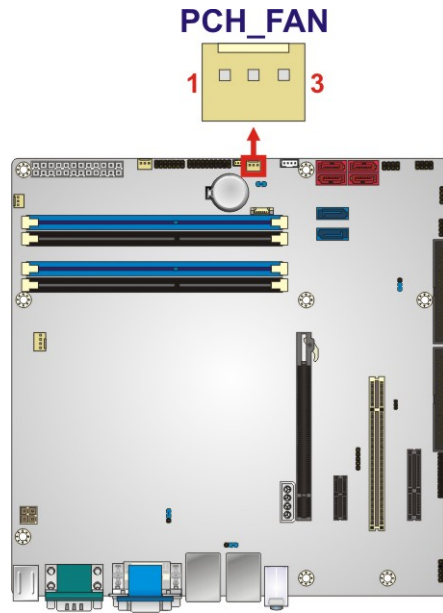

Figure 3-12: PCH Fan Connector Location
- CN Location:** See **Figure 3-12**